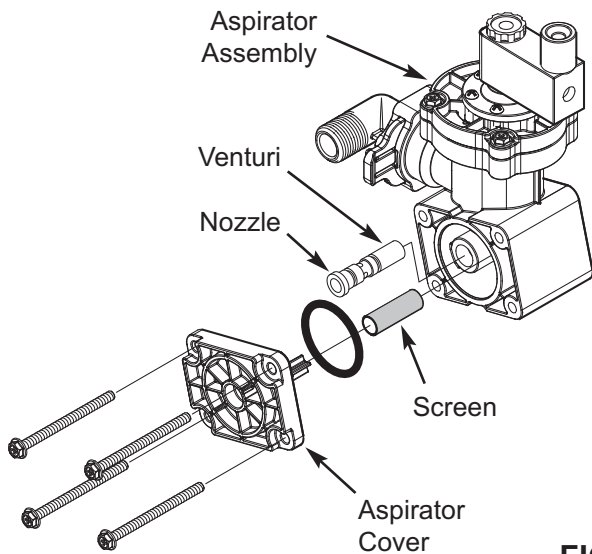

FIG. 4
**Notes** (see Figure 4): To remove the nozzle and/or venturi, use a common screwdriver in the pry slots provided. Be sure to transfer the venturi plug, used on specified models.